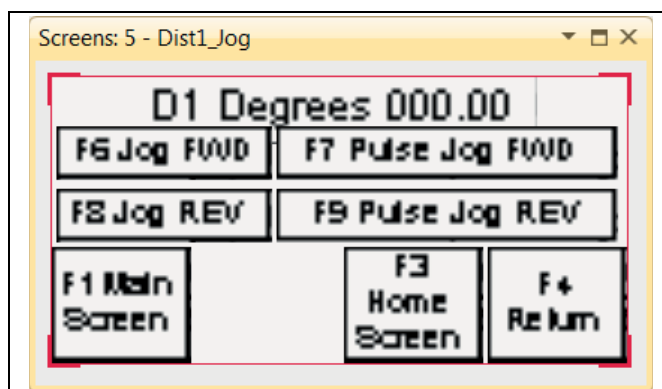

Figure 5W
10. After pressing the **F3** Jog Screen key, the screen will appear as in Figure 5W. Use the **F6** and **F8** keys to move the spout forward and reverse.